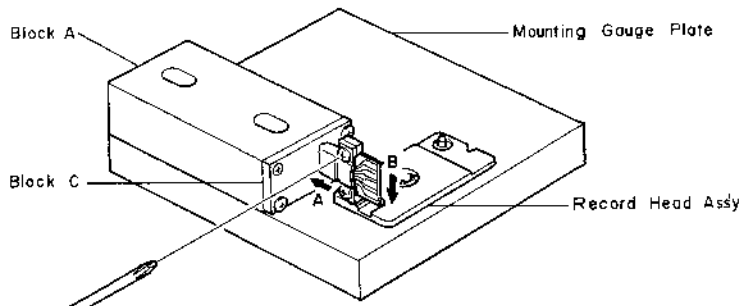

Fig. 4.28
- (5) Remove the Block B from the Mounting Gauge Plate.
- (6) As shown in Fig. 4.28, mount the R-8L record head assembly onto the Mounting Gauge Plate, then check the location of the R-8L record head surface. (If record head contacts to the Block C, loosen 2 pcs. of screws that assemble record head and record head plate, then place the R-8L record head assembly onto the Plate.)
- (7) Remove the R-8L record head assembly from the Mounting Gauge Plate.
- (8) Readjustment of Record Head Mounting Gauge M-9048 (DA09048A)
- (9) Remove the Block B from the Mounting Gauge Plate.
- (10) Mount the R-8L record head assembly onto the Mounting Gauge Plate.
- (11) As shown in the Fig. 4.28, loosen 2 pcs. of screws that assemble record head and record head plate. As the location of the Block A is secured by the item (8)-(c), push the record head to the directions A and B, then tighten 2 pcs. of screws.
- (12) Check to insure freedom from gap between the Block C and record head surface, then tighten the 2 pcs. of screws on the record head assembly with lock tight paint.
- (13) Remove the R-8L record head assembly from the Mounting Gauge Plate.
- (14) Assemble the record head assembly to the head mount base assembly.
- (15) Assemble the head mount base assembly to the mechanism assembly.
- (16) Check the record head stroke.